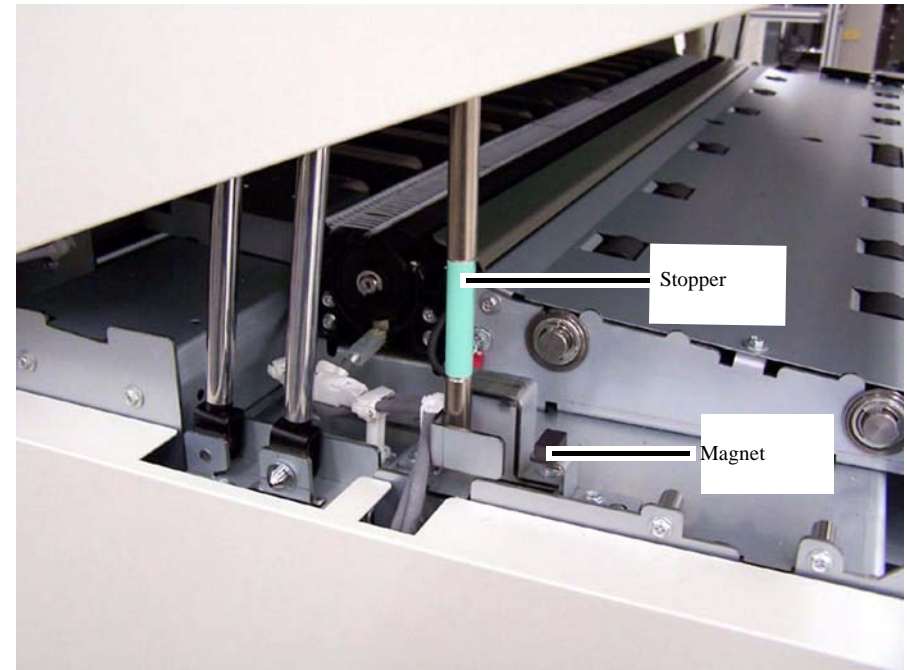

Figure 2 Closing the Clam Shell
3. Close the Clam Shell (Figure 2).